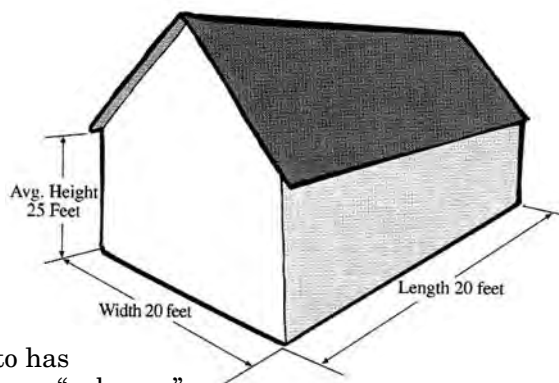
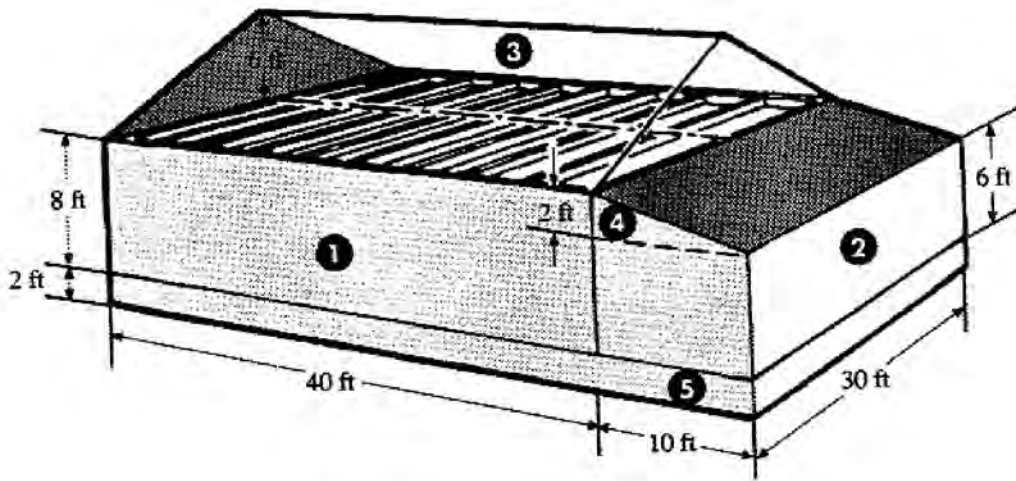

Figure 2
Figure 3
**Example 1:** The rectangular building shown in Figure 2 is 80 feet long and 20 feet wide, with an average height of 25 feet. Calculate the volume (cubic content) of the building.
This is a very basic example. A fumigator must be able to calculate the cubic content of buildings much more complicated than this. He or she also must understand how to determine average height. The building in Figure 3 is still simple, but a little more complicated than Figure 2. A lean-to has been added to the main structure, and there is a crawl space, or “subarea.”
**Example 2:** To figure the volume in Figure 3, (cubic content) of this structure, use the same procedure outlined in Example 1, but calculate the volume of each section separately. Section 1 is the main section, not including the loft and subarea. Section 2 is the lean-to, not including the loft and subarea of that section. Section 3 is the loft area of the main structure. Section 4 is the loft area of the lean-to, and section 5 is the combined subareas below the main structure and the lean-to.